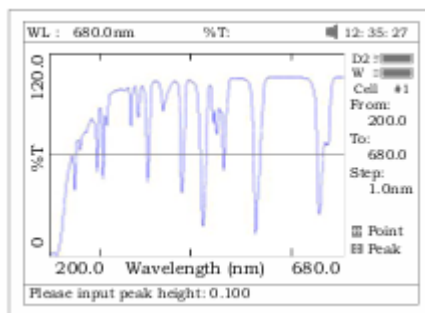
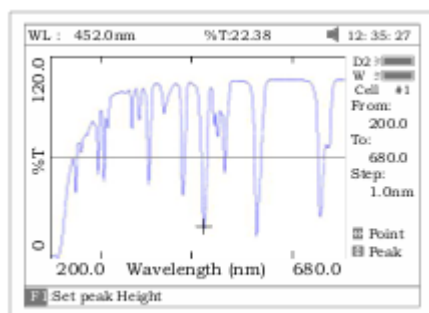

Fig.50
Fig.51
- 1) **Peak to peak**, press **【F1】** to set “peak height” and input value by pressing the numeric keypad (Fig 50). Press **【↔】** to search the peak from left to right and press **【↔】** to search from right to left. The value of every peak found will be displayed on the screen one at a time (Fig 51).